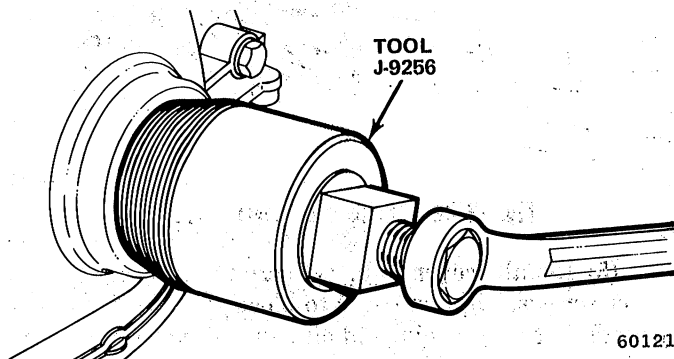

Fig. 1B-64 Timing Case Cover Oil Seal Removal
- (1) Remove drive belts.
- (2) Remove vibration damper pulley.
- (3) Remove vibration damper.
- (4) Remove oil seal with Tool J-9256 (fig. 1B-64).